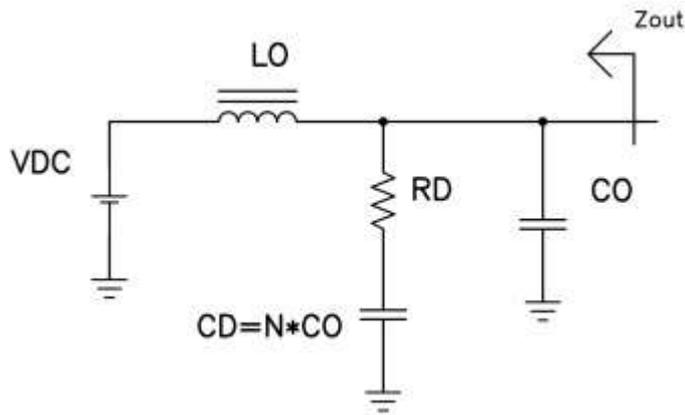

Figure 1: CD and RD damp the output
The design of an input filter usually begins with selection of an input capacitor (CO of Figure 1) based on ripple current rating or hold-up requirements. The next step usually involves selecting an inductor (LO) based on the system's EMI requirements. As we saw last month, near resonance the source impedance of these two elements can be quite high, leading to an unstable system. Figure 1 presents a method to control this impedance by placing a series resistor (RD) and **capacitor** <